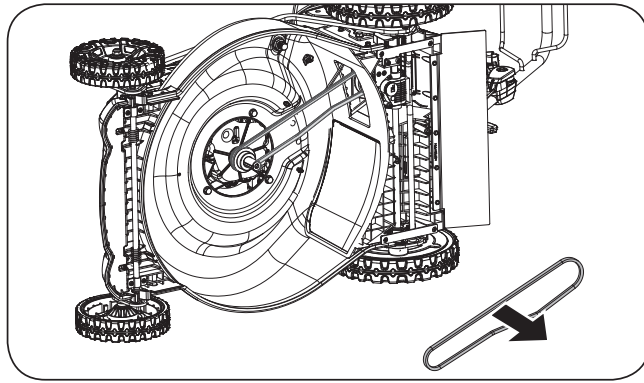

Figure 35
5. Remove the belt. (See **Figure 35**)